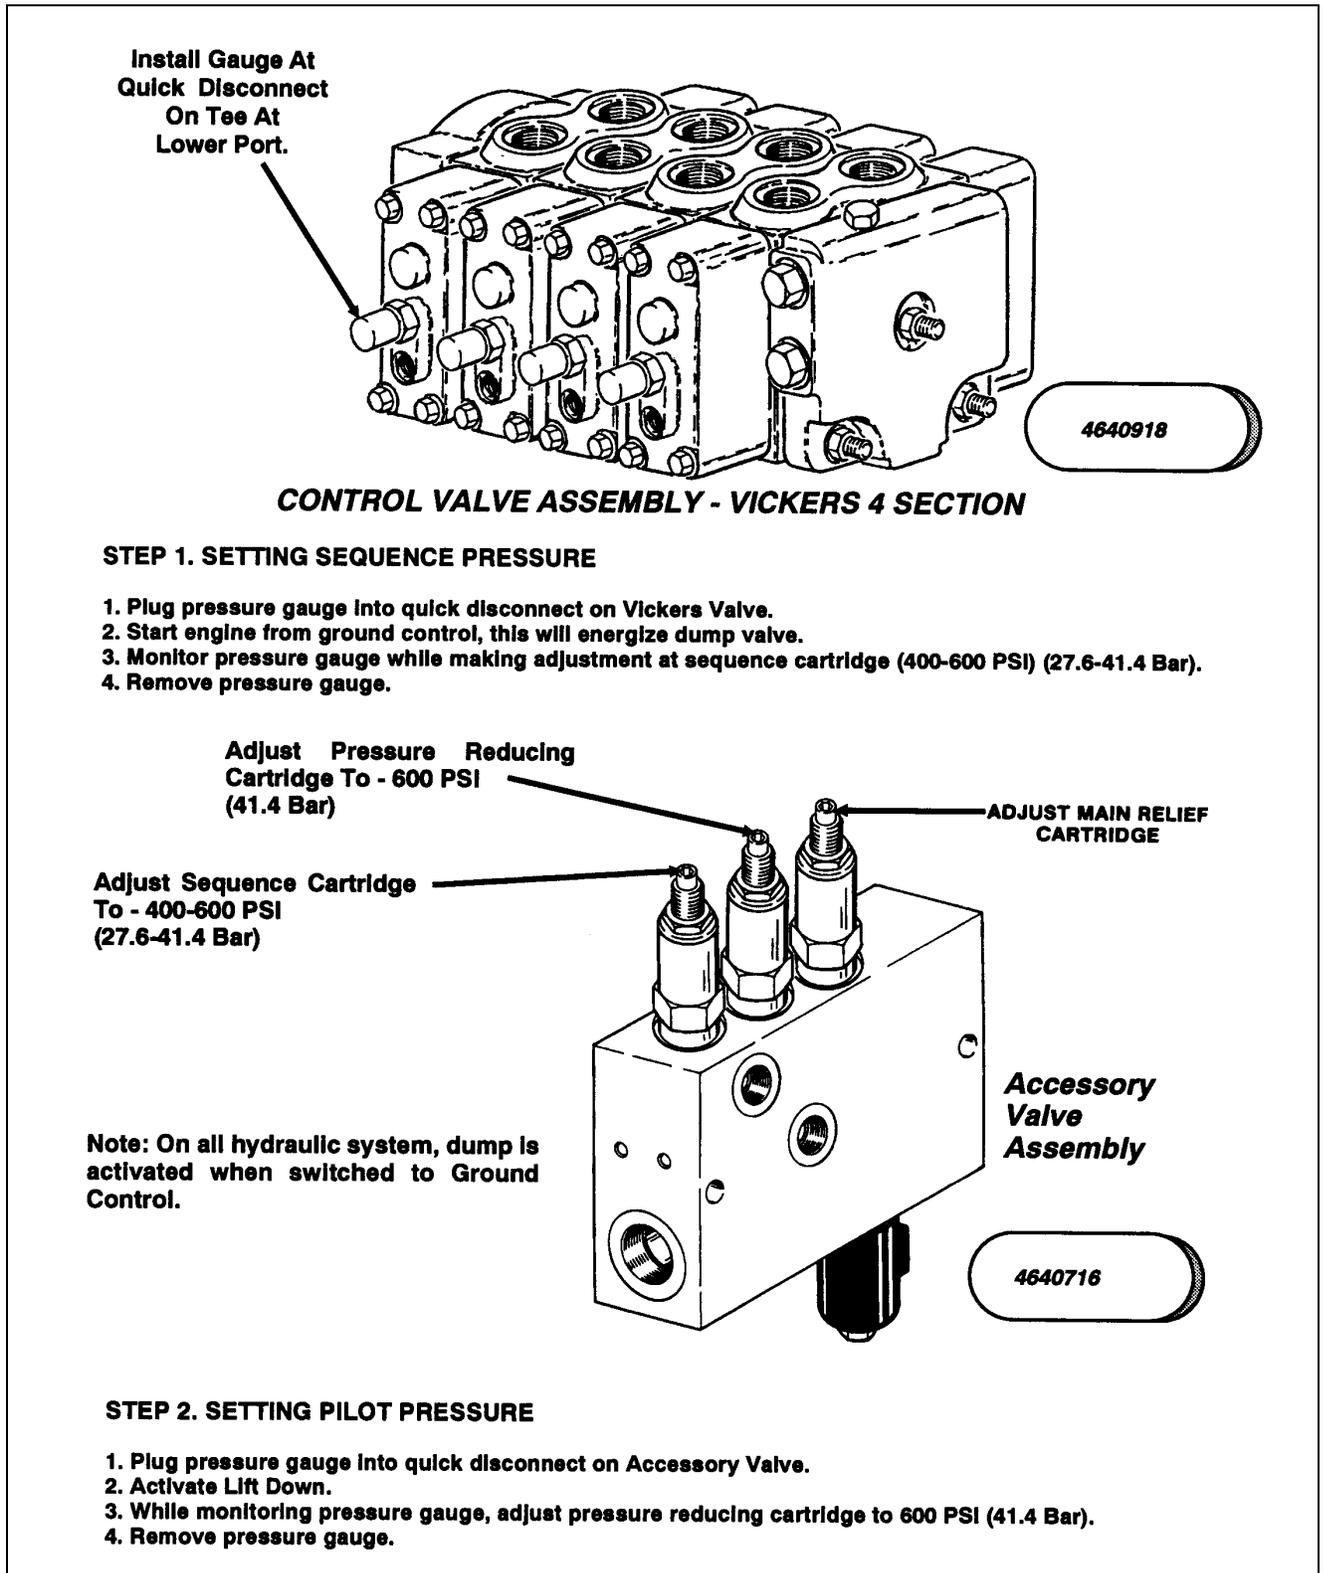

Figure 2-24. Vickers All Hydraulic Machines Pressure Settings (Sheet 1 of 4).
- f. Vickers All Hydraulic Pressure Setting are shown in Figure 2-24, 2-25, 2-26, and 2-27.